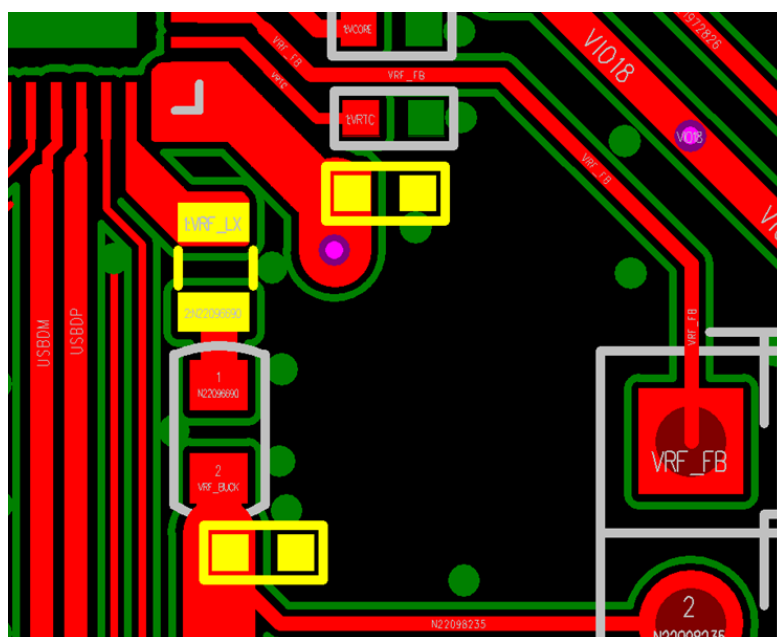

Figure 8. Placement and the LX Trace on the AB162x EVK Daughterboard
- BUCK input cap GND connects with main ground directly as shown in Figure 8.